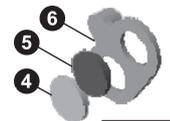

Fig. 10
14. Insert filter-lens (4, 5) according to Fig. 10 into the lantern-screen, fix it with very little superglue if necessary.